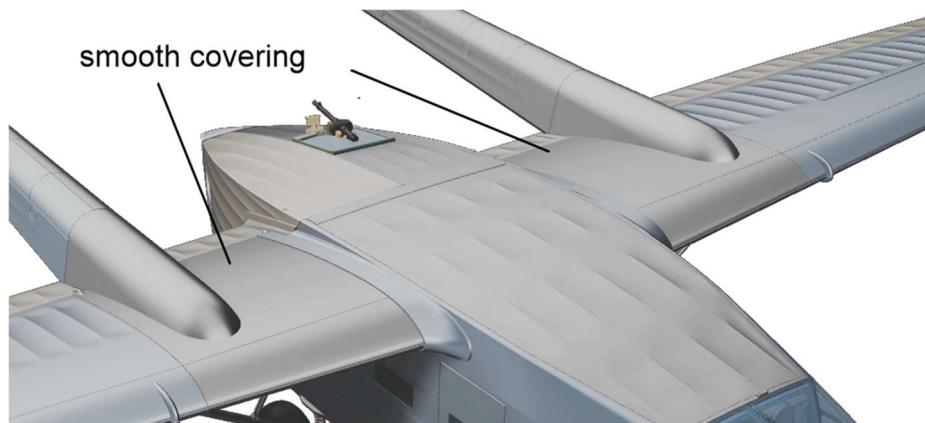

Fig. 1A
- Originally, smooth-type wing covering between fuselage and booms installed (Fig.1A)